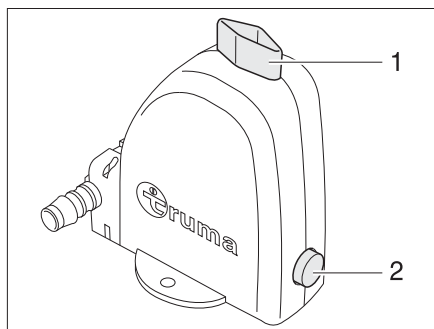

Fig. 60 Safety/drainage valve of the boiler
The boiler is equipped with a safety/drainage valve (Fig. 60). The safety/drainage valve prevents water in the boiler from freezing, when there is frost and the heater is not switched on. The safety/drain valve is installed near the heater or in the floor storage compartments under the table.
- Close the safety/drainage valve. To do so turn the knob (Fig. 60,1) cross-wise to the safety/drainage valve and press in the push button (Fig. 60,2).
- Open the safety/drainage valve. To do so turn the knob (Fig. 60,1) parallel to the safety/drainage valve. The push button (Fig. 60,2) trips. The boiler is drained to the outside by the safety/drainage valve.